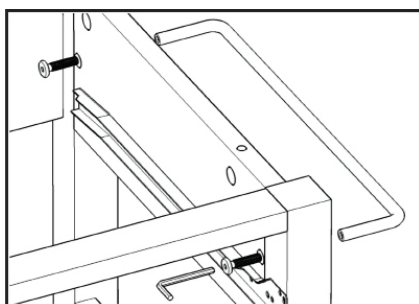

Figure 3
Attach Side Bar (J) to unit with Head Cap Bolts (short). (See Figure 3)